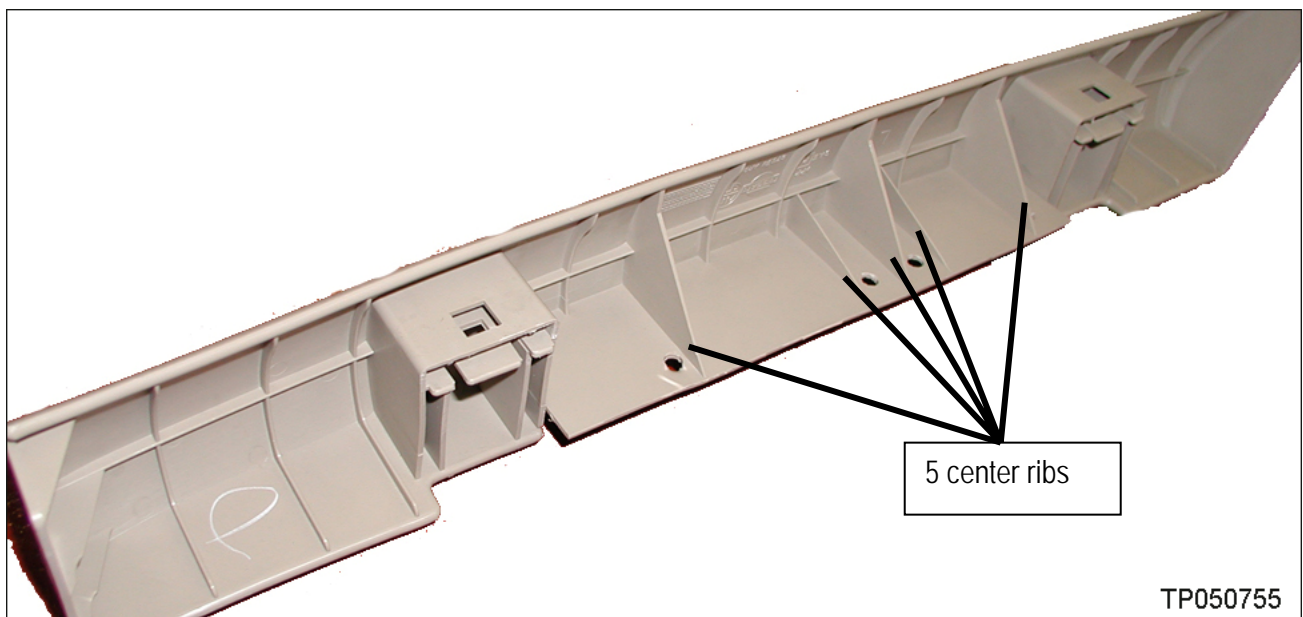

Figure 8
14. On the back side of the finisher, cut approximately 20 mm ( $\frac{3}{4}$  inch) off of the 5 center ribs (see Figures 8, 9, and 10).